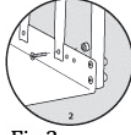

Fig.3
3. Attach the back support (6) to fixed plate (1) and to the left and right handles (4 & 5) with the nuts and bolts provided. See figure 3 and 6.